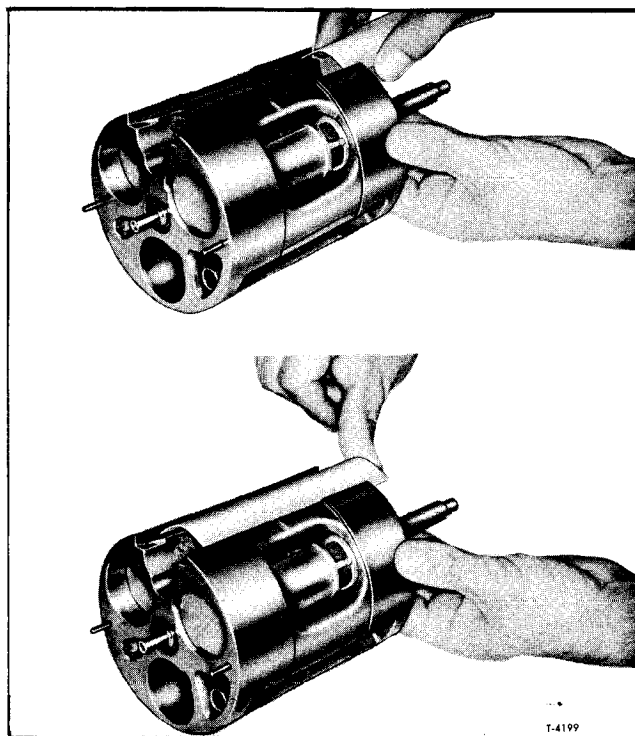

Figure 58—Installing Suction Crossover Cover
12. Replace the suction cross-over cover as shown in Figure 58. Compress the cover as shown to start it into the slot and then press it in until flush on both ends.